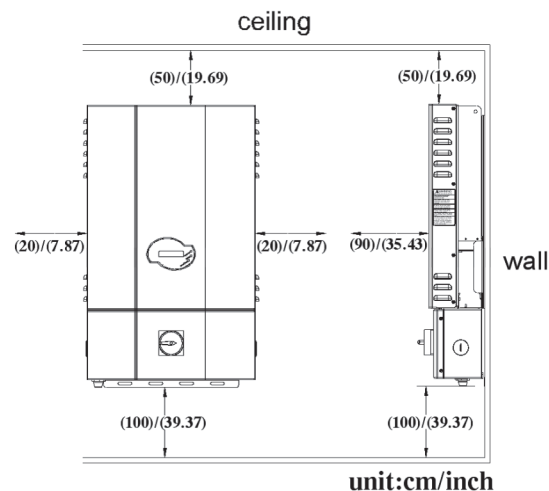

Fig. 2.1.1 Clearances required for SE inverter installation
2. Leave at least 50 cm (19.67 inches) of free space above and 100 cm (39.37 inches) below the inverter when installed outdoors. Allow 20 cm (7.87 inches) between inverters when installing multiple inverters for better ventilation (see figure 2.1.1).